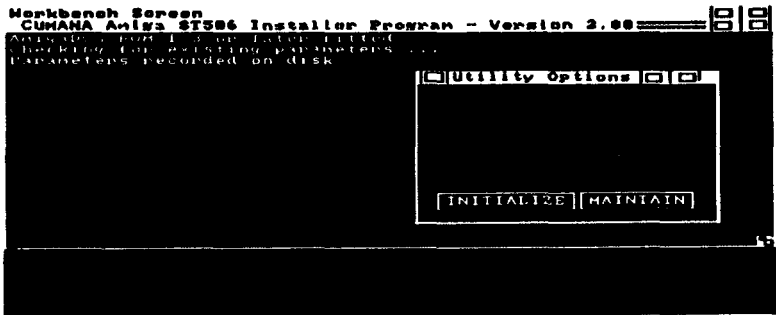

Figure 4:Illustration of the Installer options
Hard Drive Installer - see Figure 4
If Installer discovers previously set-up parameters, you may choose to Maintain, or change parts of these parameters. Alternatively you may proceed with a full initialization, over-writing existing data. Figure 4 shows the options as displayed by Installer. The end of this section refers to this.
- **When back-up is completed select MAINTAIN option, see Figure 4, and you will be asked to confirm that you wish to update the driver, file system, etc. Select CONTINUE and you will be asked if you wish to VERIFY the drive. QUIT will exit from MAINTAIN. Selecting YES, after the CONTINUE, verifies the drive - you will see the progress in terms of the cylinder being verified and cylinders to go - it takes a couple of minutes. The list of bad sectors will be updated. This may have an effect on files as they may include reassigned sectors. Fortunately you can recover your software from floppy.**